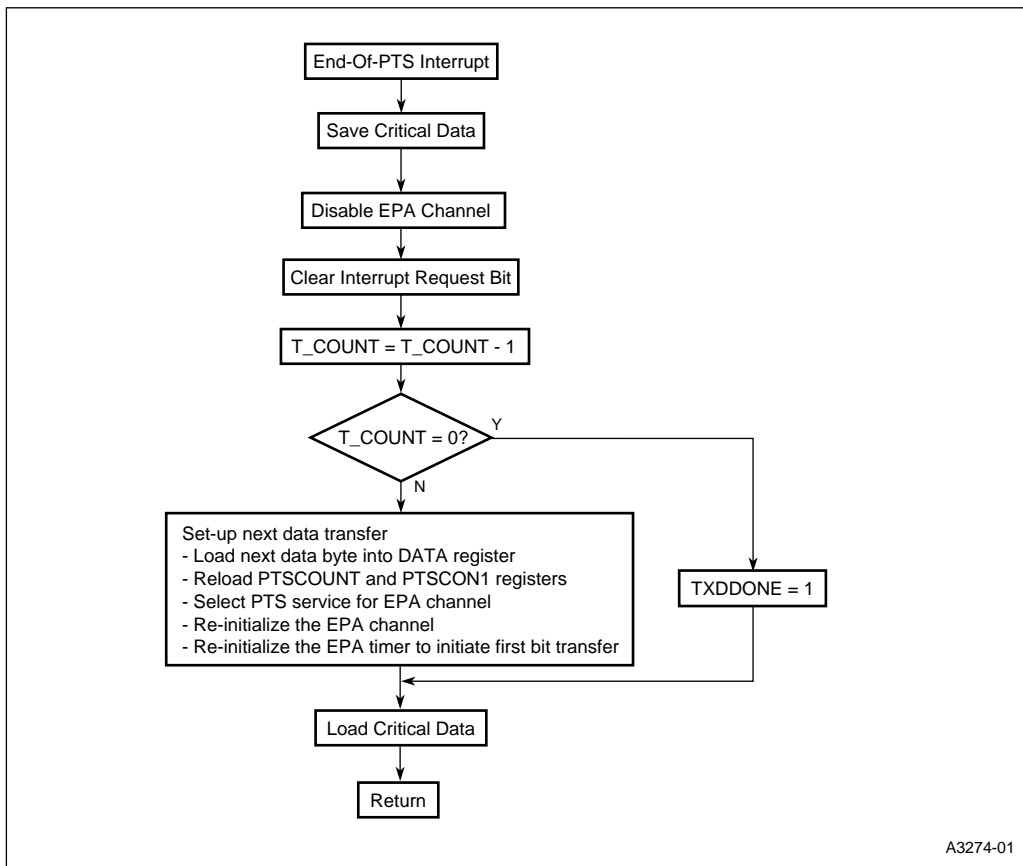

Figure 5-22. Synchronous SIO Transmit Mode — End-of-PTS Interrupt Routine Flowchart
13. The transmission will begin. Data is shifted out with the least-significant (rightmost) bit first. Each time a timer match occurs between EPA0_TIME and TIMER1, the EPA0 channel generates an interrupt and toggles the SCK signal. The PTS outputs the next bit of data on the pin configured as TXD on odd PTS cycles. When PTSCOUNT decrements to zero, the PTS calls the end-of-PTS interrupt (Figure 5-22). The interrupt service routine should disable the EPA channel because the final PTS cycle loads the next SCK toggle